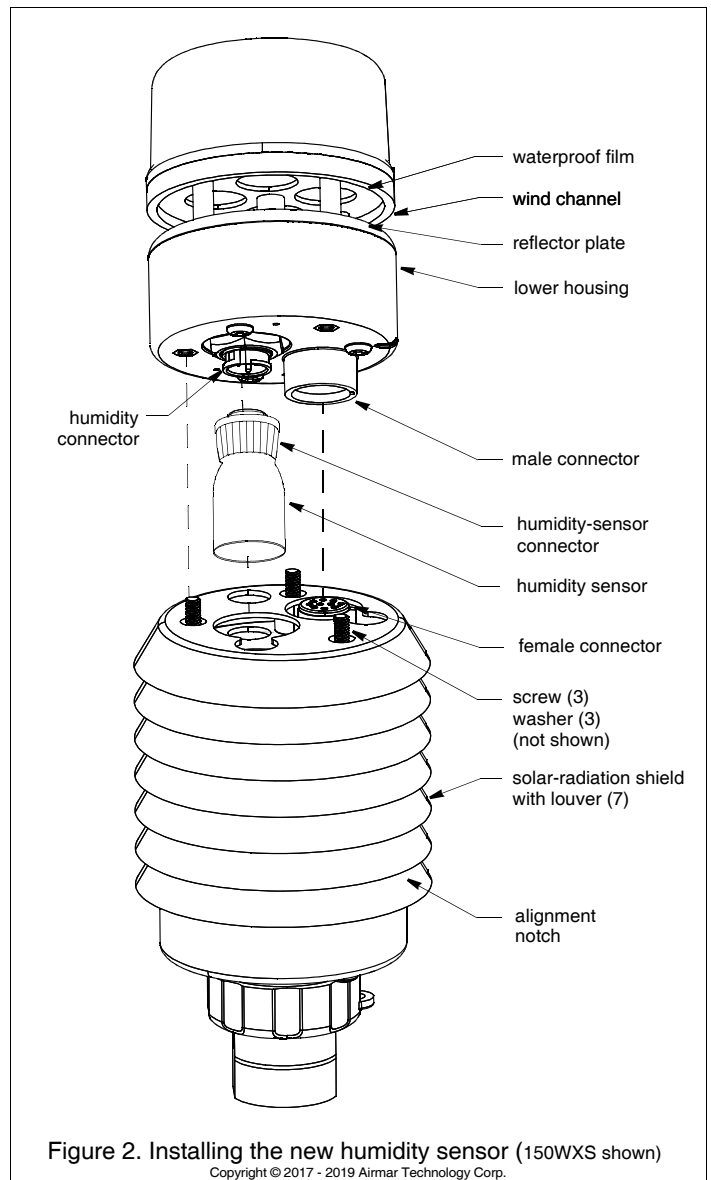

Figure 2. Installing the new humidity sensor (150WXS shown)
5. Install the new humidity sensor (Figure 2). Grasp the humidity sensor by its connector. Push the sensor onto the humidity connector and turn counterclockwise until you feel it stop.
9. To accurately measure the wind direction, be sure to orient the alignment notch correctly. Grasp the *lower housing* of the WeatherStation Instrument below the reflector plate and hold it in the proper position (Figure 2).
10. Reattach the WeatherStation instrument to the mounting hardware. Slide the captive nut upward and screw it onto the solar-radiation shield section of the WeatherStation Instrument (Figures 2 and 3). **Hand tighten** only. Do not over-tighten.